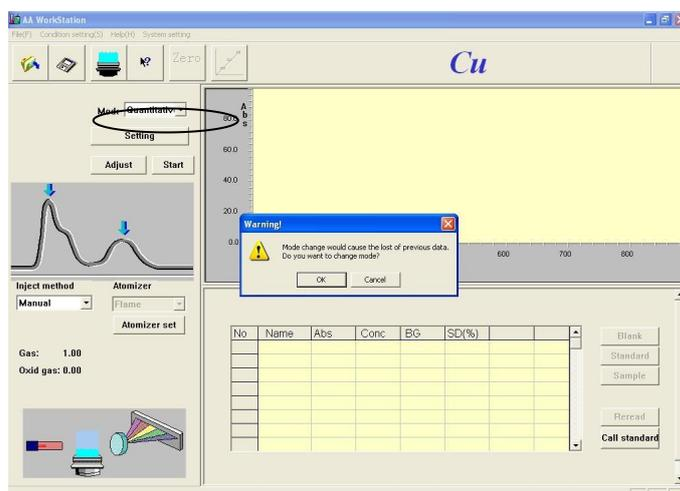

Figure 5-16
4. As shown in Figure 5-16, select "Quantitative analysis" in the pull-down list.